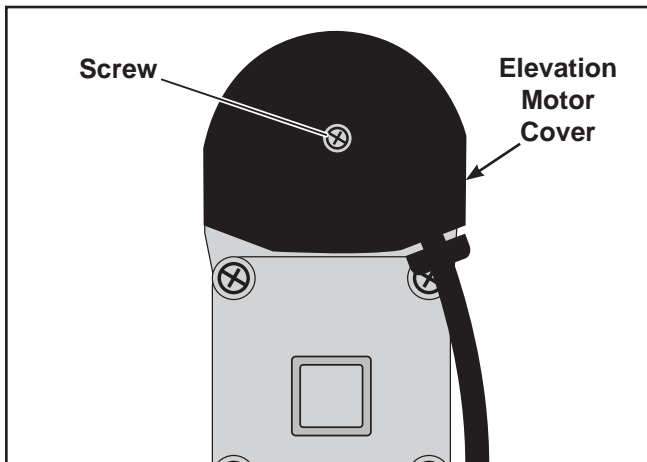

Figure 4
A. Using a #2 Phillips screwdriver, remove the screw securing the elevation motor cover. See Figure 4.
- A. Using a Phillips screwdriver, secure the elevation motor cover with the screw removed in step 5A. See Figure 4.